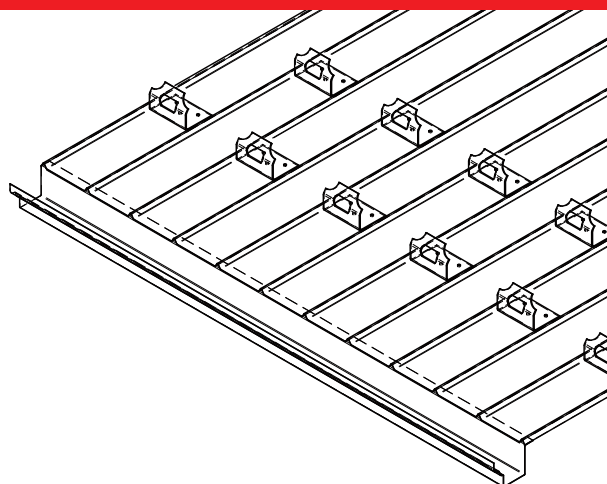

Figure 5: Individual snow guards in a staggered pattern
- For a pitch steeper than 4/12, two rows arranged in a staggered pattern is recommended (Fig. 5). A spacing of 2 feet is required between rows.